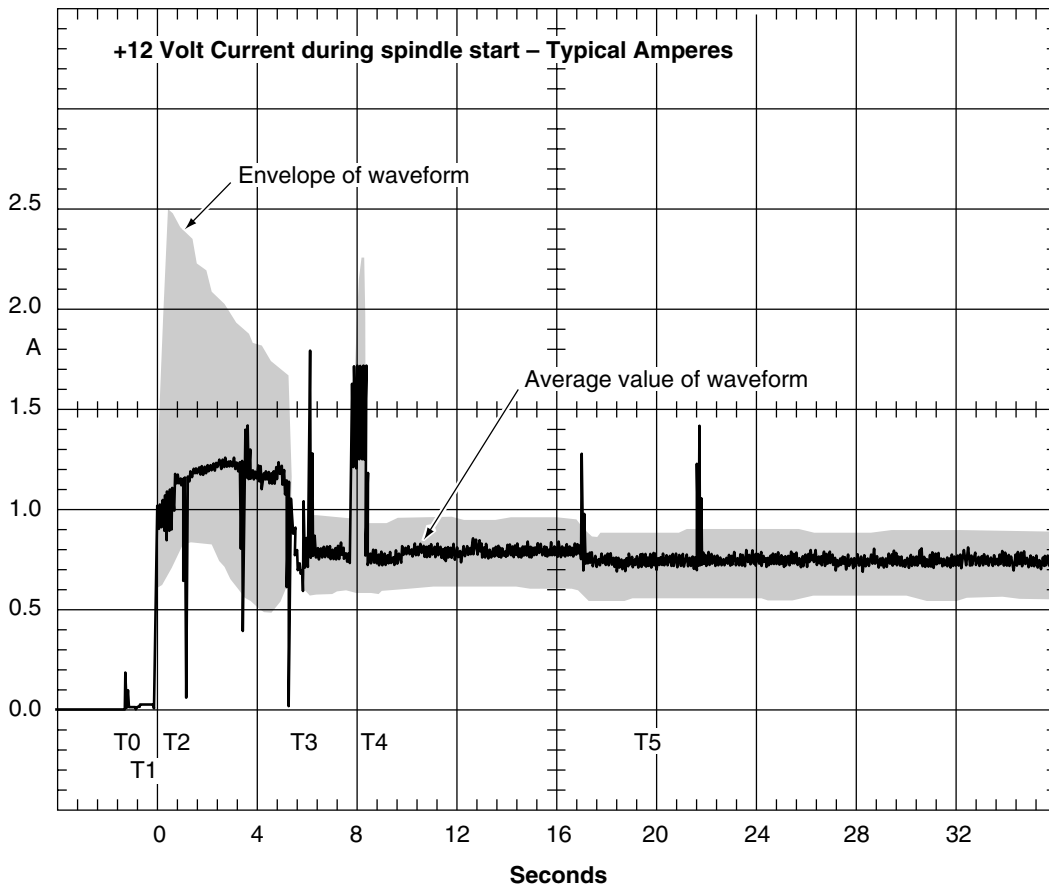

Figure 3. Typical ST318451FC drive +12V current profile
- [3] See +12V current profile in Figure 3.
Figure 3 identifies the drive +12V current profile. The current during the various times is as shown: